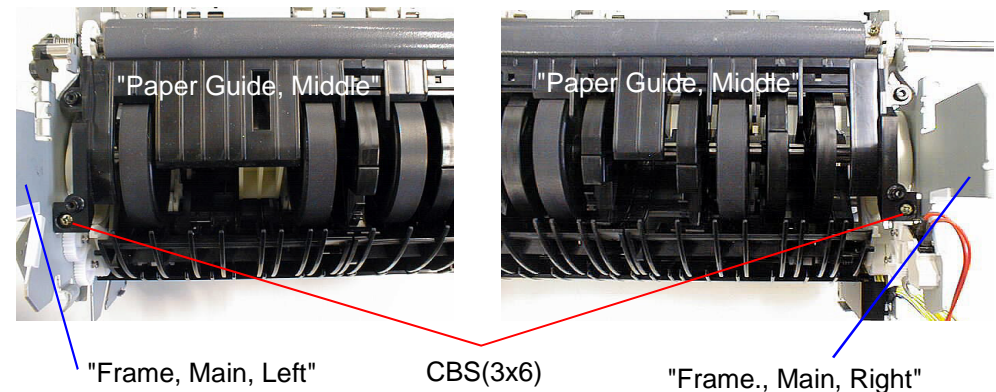

Figure 4-54. "Paper Guide, Middle" Removal
7. Remove 2 CBS screws(3x8) securing "Paper Guide, Middle" to "Frame, Main, Left/Right", and remove "Paper Guide, Middle". (Refer to Figure4-54)